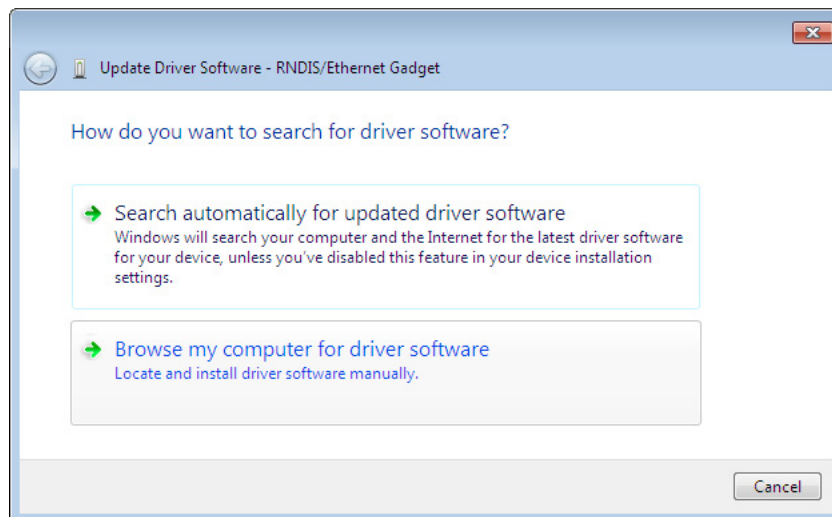

Figure 18. Update Driver Software Window – Search Method
5. Select **Browse my computer for driver software** (see Figure 18).